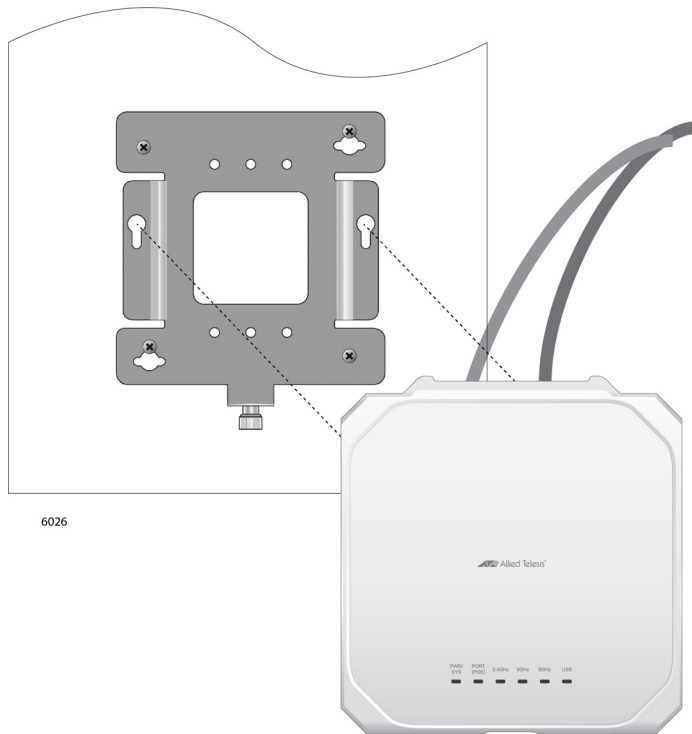

Figure 19. Installing the Access Point on the Mounting Bracket
1. Align the bottom of the access point over the bracket so that the two screws on the bottom of the device fit into the bracket keyholes. Refer to Figure 19. (These are the two access point chassis screws installed in “Pre-fitting the Mounting Bracket on the Access Point” on page 25.)